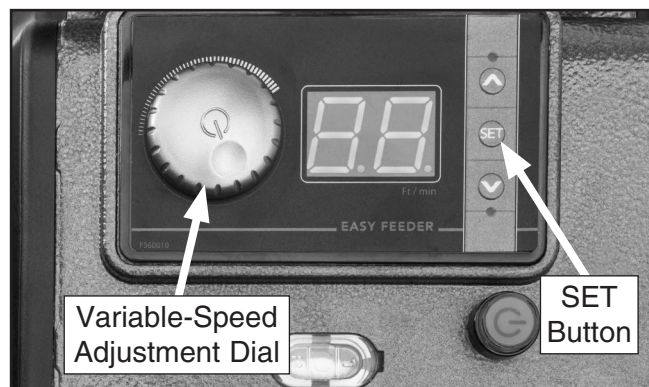

Figure 23. Location of SET button and variable-speed adjustment dial on control panel.
1. Press SET button on control panel, as shown in **Figure 23**.